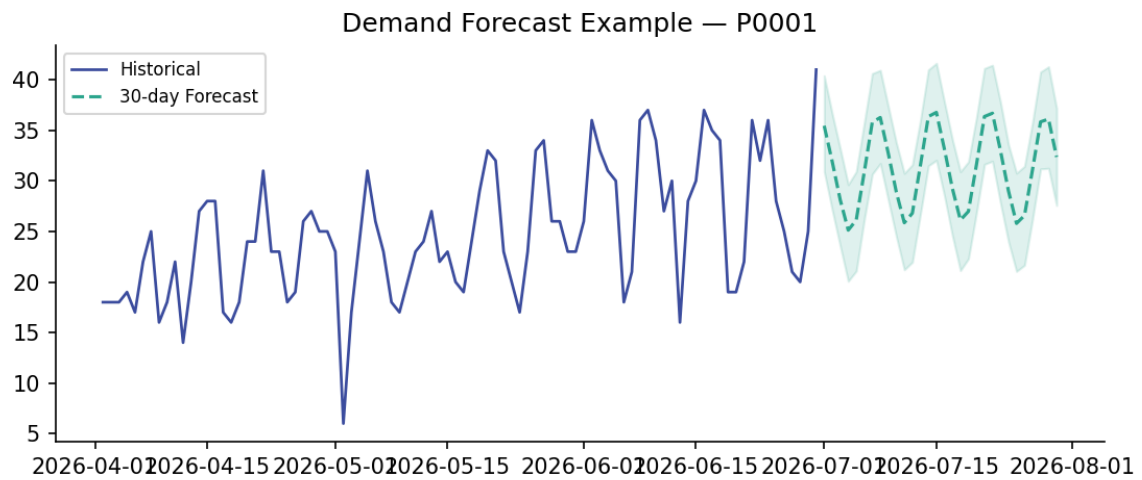

Figure 5 — Example 30-day forecast with confidence interval for a single SKU.
- Figure 5 — Example product demand forecast